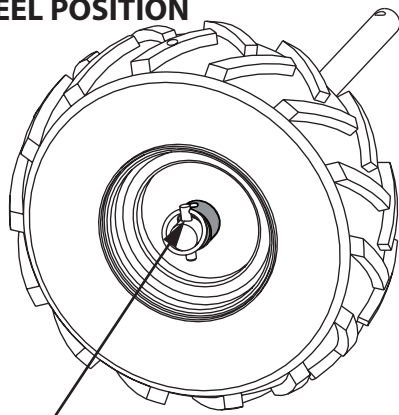

FIGURE 10 WHEEL LOCK PIN IN FREE-WHEEL POSITION
1. Remove lock pin. Slide wheel inward toward machine. **SEE FIGURE 10 (Next Page)**